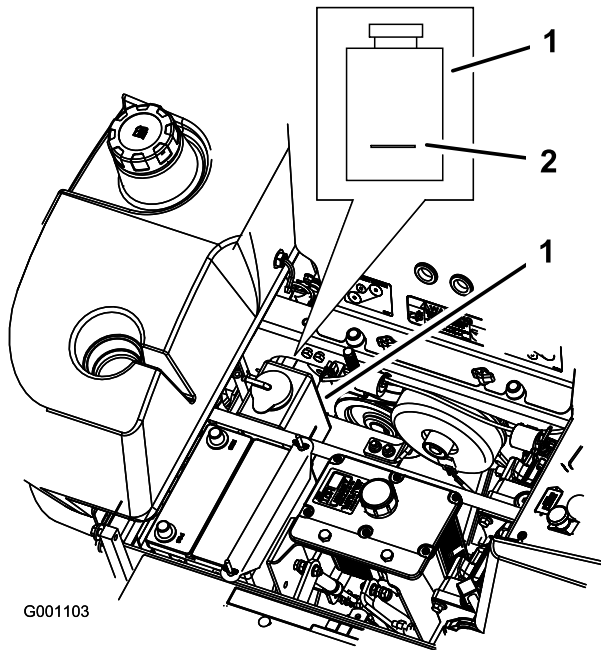

Figure 71
3. With the engine cool, check the overflow bottle level. The fluid needs to be up to the bump on the outside of the overflow bottle (Figure 71).
4. If the coolant level is low, add a 50/50 mix of extended life antifreeze/Dex-Cool® and water to the overflow bottle (Figure 71).
5. Add the 50/50 coolant mix to the overflow bottle and fill it to the indicator line on the bottle (Figure 71).